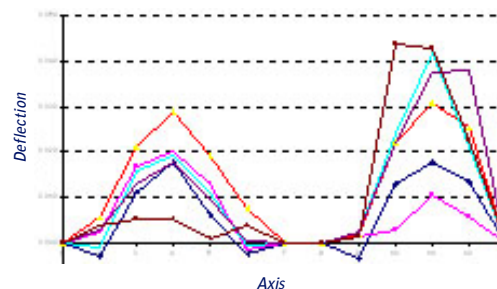

Figure 1
- iv) The increased weight of the panels will impose larger loads on the steel structure, often taking the structure beyond its design limits. (Figure 1 shows the results of a survey by FJB Systems into the flexing of a portal steel frame caused by ice-logged ceiling panels – in this case the structure would have collapsed if a significant snow load had been imposed).